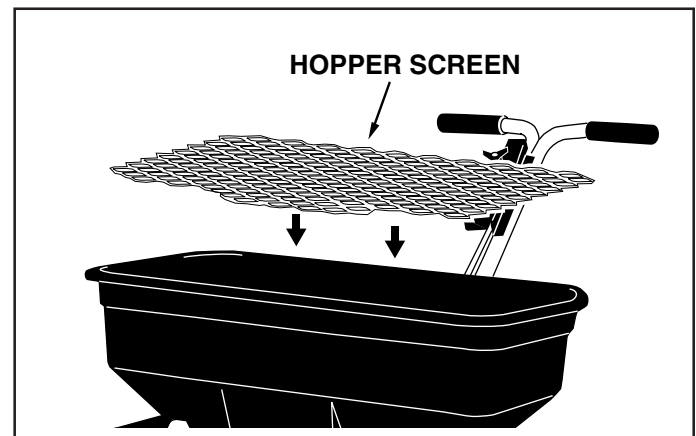

FIGURE 14
30. Place the hopper screen down into the hopper to help break up clumpy material and to prevent large clumps from reaching the bottom of the hopper and clogging the opening. See figure 14.